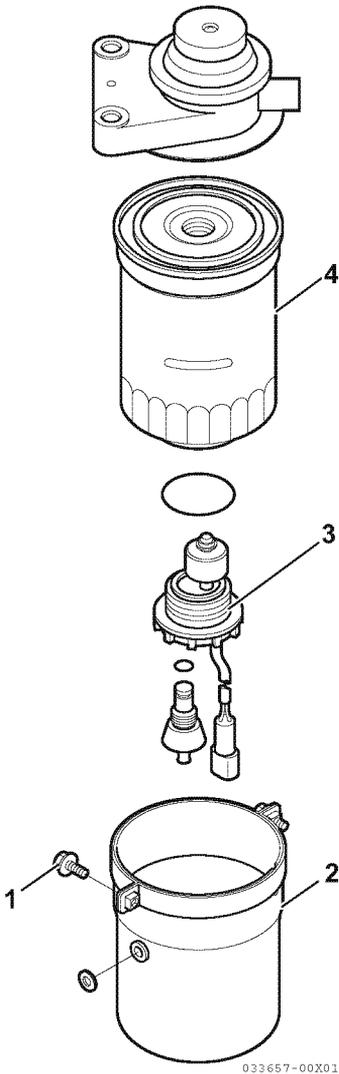
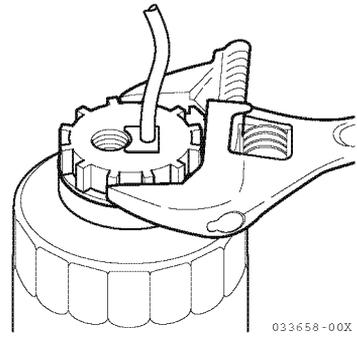

Figure 9
Figure 10
2. Remove the two mounting screws (**Figure 9, (1)**) and the housing (**Figure 9, (2)**).
5. Remove the alarm switch (**Figure 9, (3)**) and (**Figure 10**) with a wrench.
6. Remove the filter element (**Figure 9, (4)**) with a filter wrench.